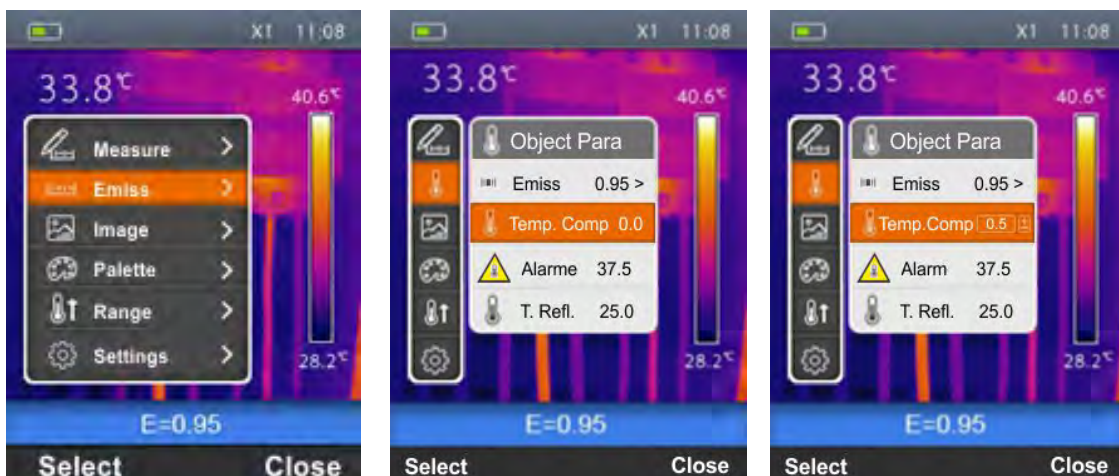

Fig. 19: Setting temperature compensation on the instrument
1. Select the item “Emiss” with the keys \oplus or \ominus and press the key \blacksquare . The screen Fig. 19 – Central part is shown on the display.
2. Use the keys \oplus or \ominus to select the item “Temp.Comp” and press the key “Select”. The screen Fig. 19 – Right side is shown on the display